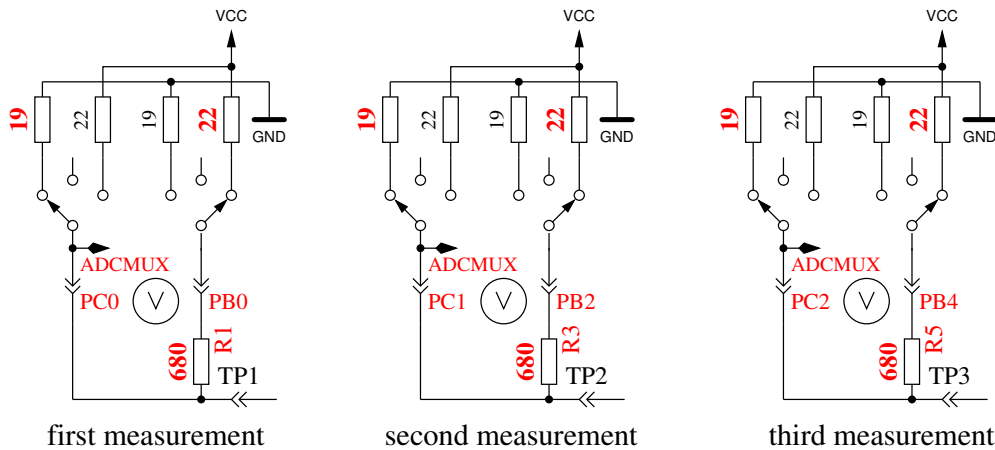

Figure 5.45: Measurement of internal resistance of Port C switched to GND
5. **This step tests the capability of GND (-) connected 470kΩ resistors (H) to pull the test pins to GND.** Row 1 shows the text “RH-”. Row 2 should display zero for all three pins.
6. **This step tests the capability of VCC (+) connected 470kΩ resistors (H) to pull the test pins to VCC (+).** Row 1 shows the text “RH+”. The results are shown als difference to VCC and should be near zero. Great differences from the best value for test 5 and 6 are errors such as isolation problem, flux material or damaged port.
8. **Measuring of internal resistance of pin output switched to the GND signal.** This test and the follwing tests will only be done, if the option AUTO_CAL is selected. The internal resistance of the port C outputs switched to GND (-) are measured with the current of to VCC (+) switched 680Ω resistors, see Figure 5.45. Only the three pins of the ADC port are measured, the resistor port B (PB0,PB2 and PB4) can not be measured without hardware modification. Is is assumed that the port resistance of the different ports are nearly identical. The resistor value will be shown in the next test.